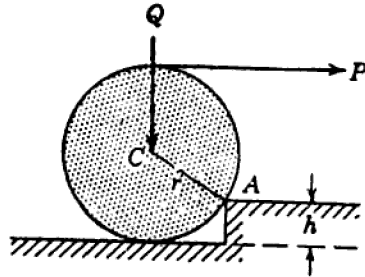

Fig. 3
- b) A roller of radius $r = 12$ cm and weight $Q = 5$ kN is to be rolled over a curb of height $h = 6$ cm by a horizontal force P applied to the end of a string wound around the circumference of the roller as shown in Fig. 3. Find the magnitude of P required to start the roller over the curb. There is sufficient friction between the roller surface and the edge of the curb to prevent slip at A. 8